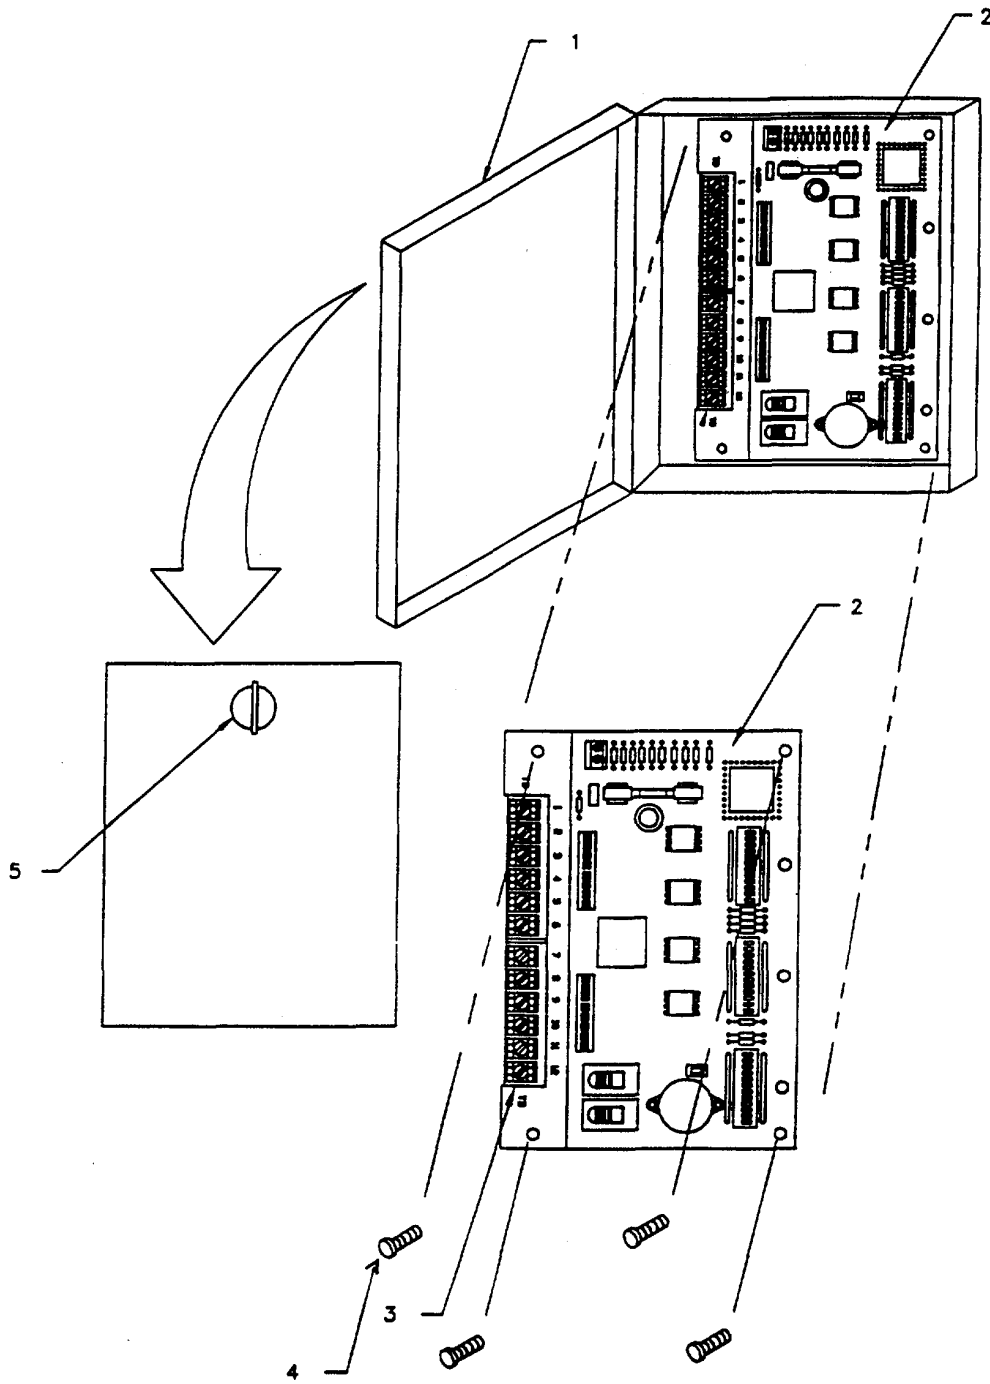

Figure 3-65. Removal and Replacement of Fence Mounted Vibration Sensor Processor Assembly
**3-117. REPLACE FENCE-MOUNTED VIBRATION SENSOR PROCESSOR, RACON MODEL F-100. (Figure 3-65).**